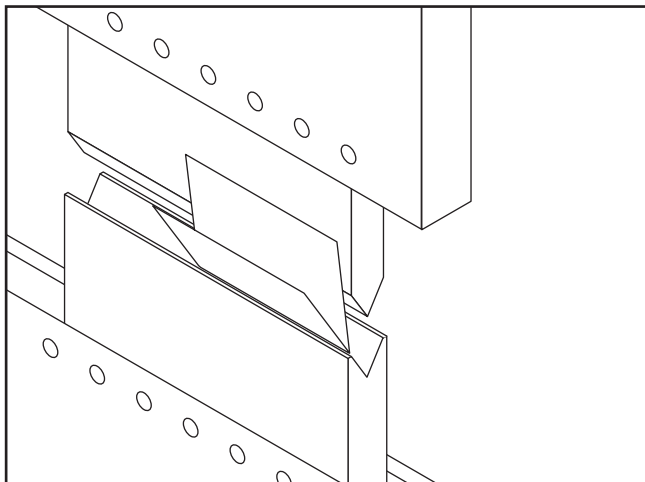

Figure 8. Positioning for bends over 135°.
3. Place the workpiece as shown in **Figure 8**.